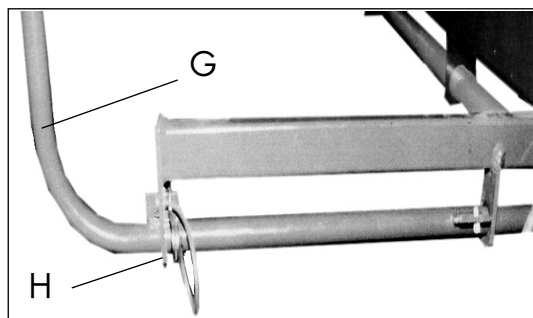

Fig. 3-7
1. Fold up the deflector bars (G) on both sides, insert and lock with spring pin (H) (fig. 3-7).